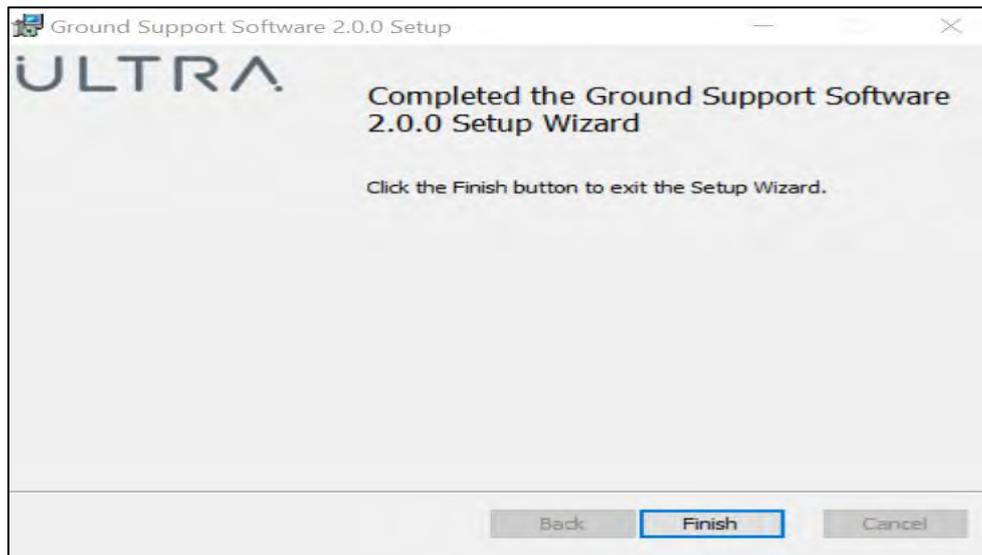

Figure 2-8 Finish
- (b) The GSS will now install. Once installed the Finish screen will show, select finish to complete installation. (**Ref Fig 2-8**)